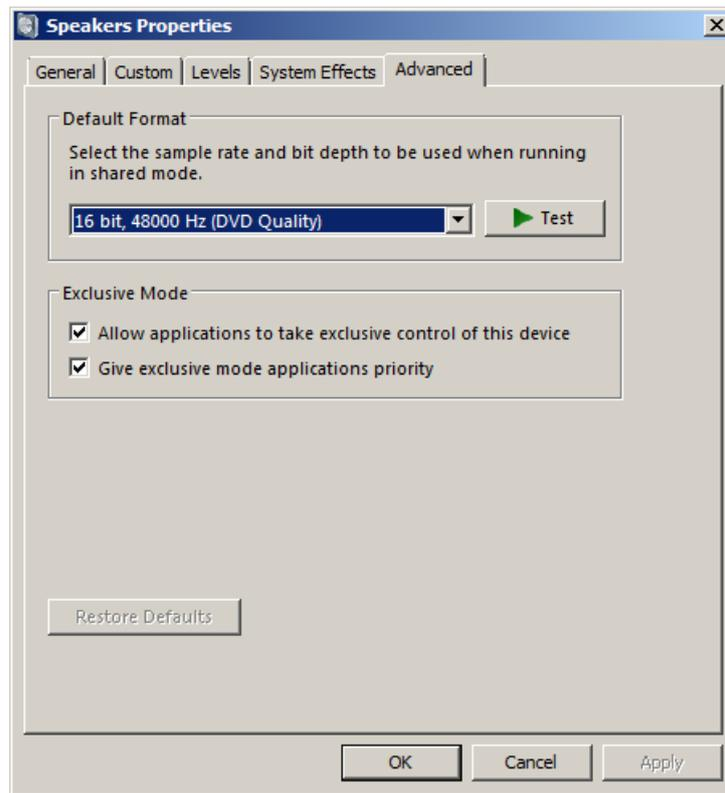

Figure 4.11 Setting the native bit resolution and sampling rate in Vista
- 4) Click on the tab **'Advanced'** to set the channel resolution and a sample rate (as in Fig. 4.11)